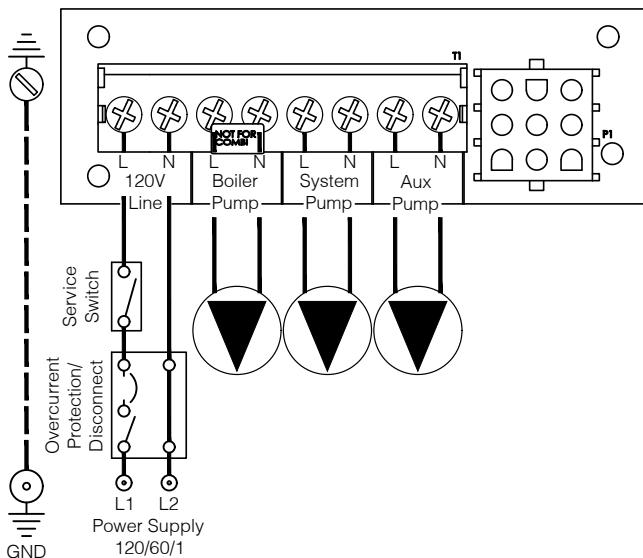

Figure 12-2: 120 VAC Connections
2. All 120 VAC connections to boiler are made on 120 VAC Connections terminal strip (see Figure 12-2) located on right side of bottom panel. Route all 120 VAC wiring through conduit knock out holes located on right side in front of terminal strip.